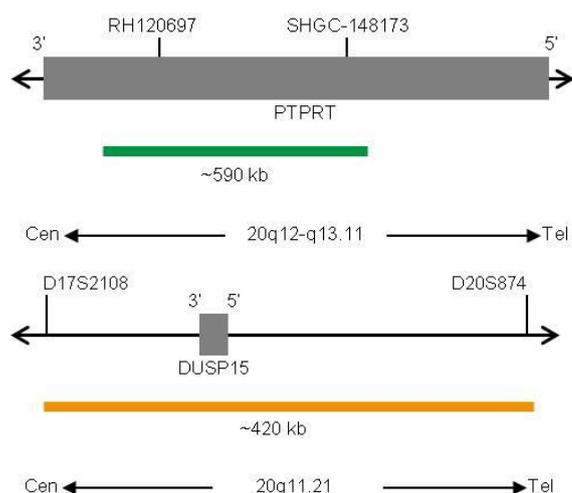

Fig. 1: Top: SPEC PTPRT Probe map (not to scale), Bottom: SPEC 20q11 Probe map (not to scale).
- ZyGreen (excitation 503 nm/emission at 528 nm) labeled polynucleotides (10 ng/μl), which target sequences mapping in 20q12* (chr20:40,831,013-41,419,634) (see Fig. 1).
- ZyOrange (excitation 547 nm/emission at 572 nm) labeled polynucleotides (4.5 ng/μl), which target sequences mapping in 20q11.21* (chr20:30,301,019-30,719,110) (see Fig. 1).